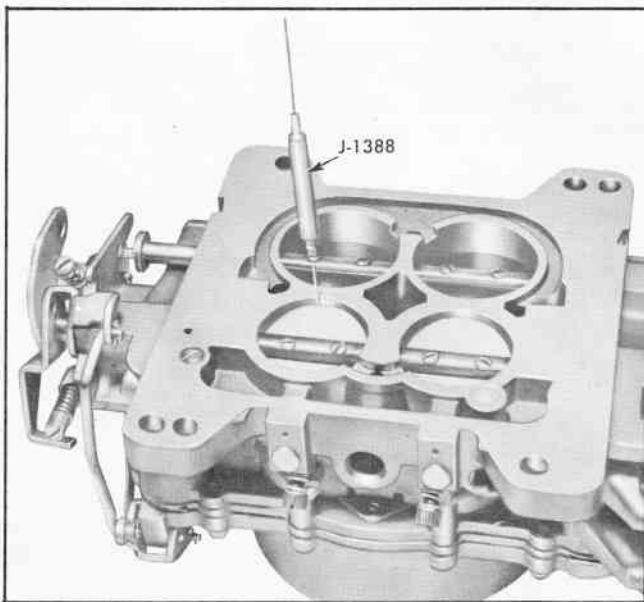

Fig. 29 Checking Fast Idle Adjustment
2. Tighten fast idle screw on high step of cam until there is $.030$ " clearance (Gauge J-1388) between primary throttle valve and bore of carburetor, directly opposite idle port (Fig. 29).